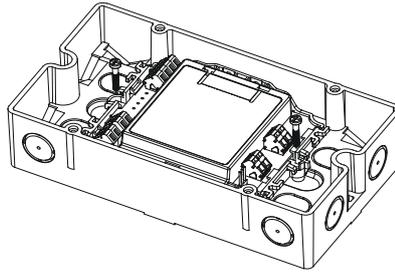

Fig. 3
- Installation outside a switching cabinet or a control unit: use FDCH221 housing (Fig. 3) .